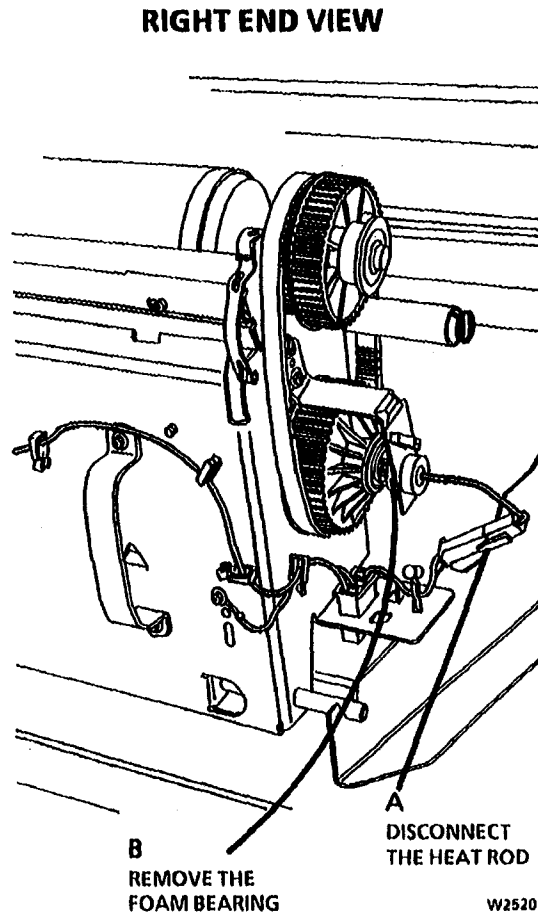

Figure 1. Prepare to Remove the Heat Rod
2. (Figure 1): Prepare to remove the Heat Rod.